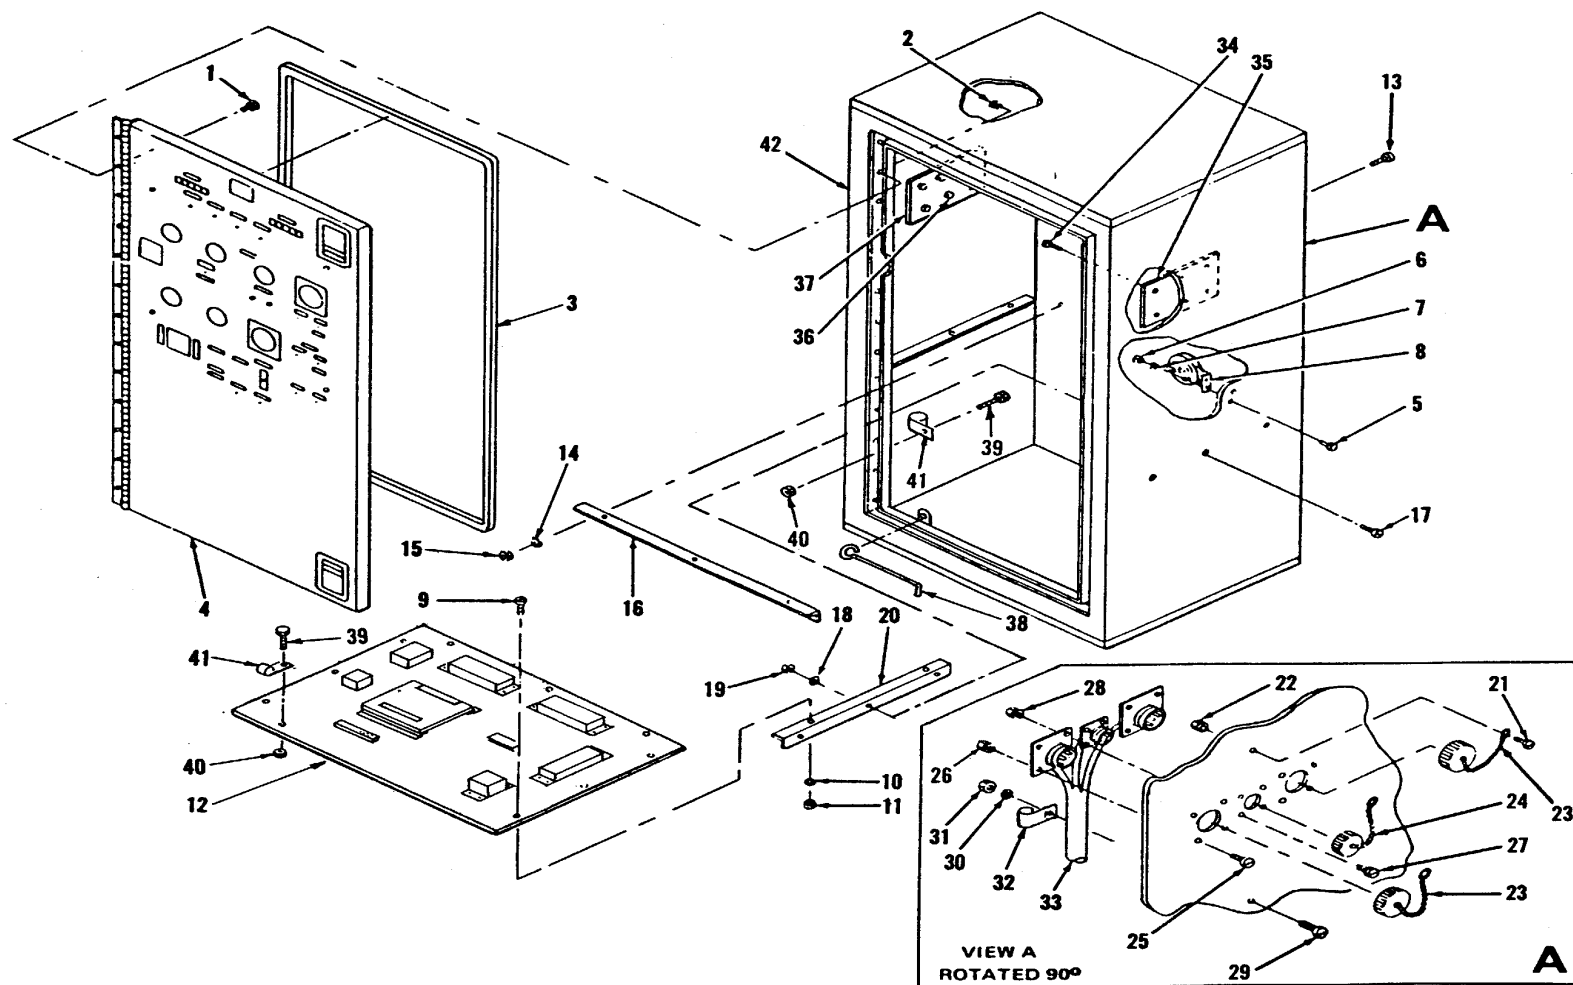

Figure 5-1. Remote Control Module
5-2. GENERAL. The remote control module (figures 5-1, 5-2, and 5-3), when used with the remote control cable, allows remote starting and stopping, and monitoring control of the set from a location up to 100 feet (30) away. With minor exceptions, the remote control module is identical to the generator control panel; the remote control module contains a MASTER SWITCH, a START AID switch and a READY TO LOAD indicator lamp, and does not contain a clock, phase sequence indicator lights, or a 24V DC circuit breaker. The theory of operation for the remote control module is the same as that for the generator control panel as described in Chapter 1, Section III (with the above noted exceptions). When remote operation is required, the controls and indicators of the remote control module are connected in place of equivalent circuits in the generator set.
LEGEND FOR FIGURE 5-1
relays (2 and 4, figure 5-2), and alarm horn (8, figure 5-1) for cracking or damage, loose mounting or loose connections.
(1) Replace gauges and switches on the front panel as follows:
(2) Replace alarm horn (8, figure 5-1) as follows:
- (b) Remove nut (6), washers (7), and screw (5) to remove horn (8).
- (c) Install horn (8) with screw (5), washer (7), and nut (6).